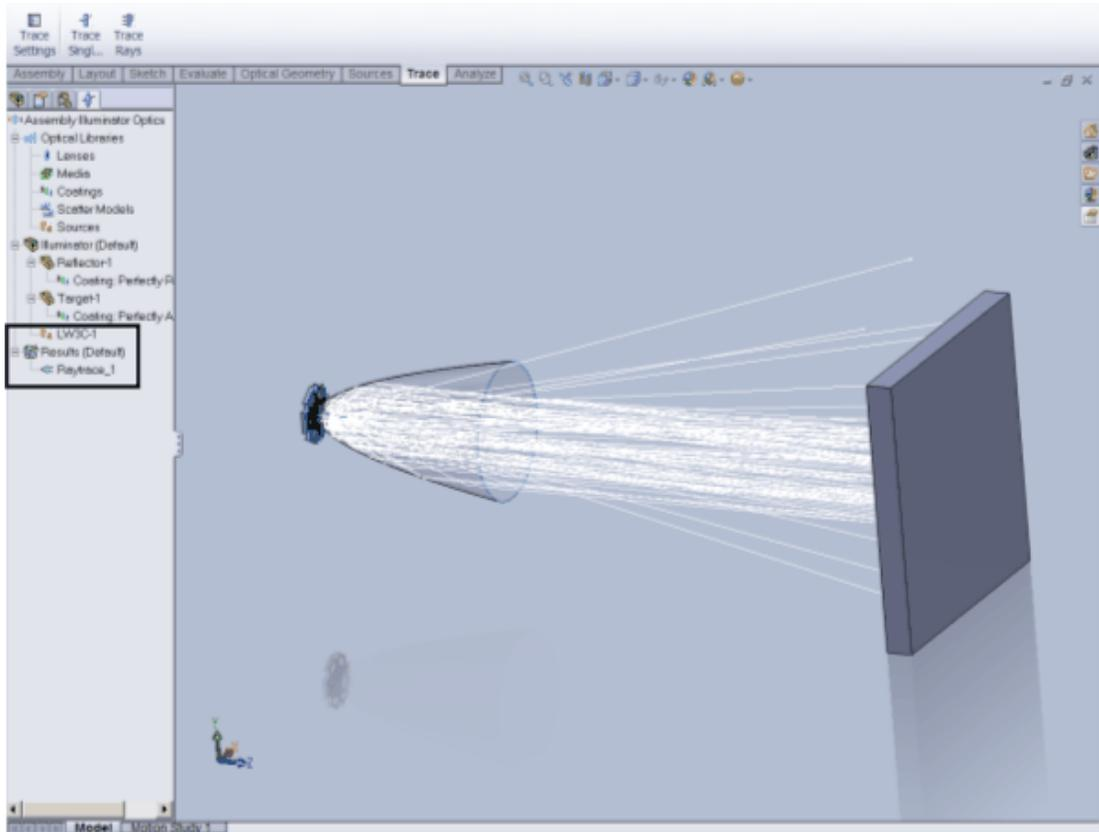

Figure 80 Reflector showing some of the traced rays, and the new Raytrace node on the Optics Manager
- 8 Click the Optics Manager tab on the FeatureManager to view the Results node. A Raytrace node is now on the tree. See Figure 80.